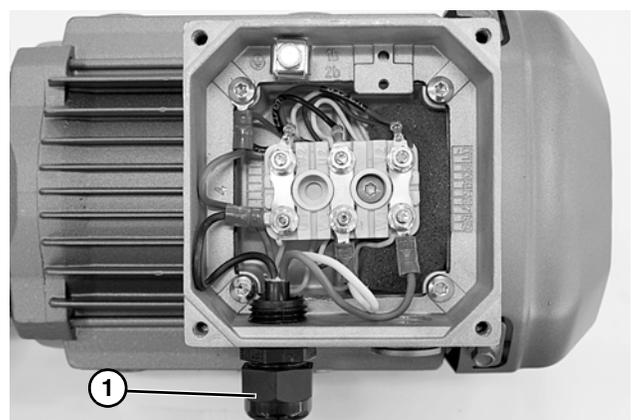

Figure 14
3. Install cord grip and power cord (Figure 14, item 1) mount to terminal box as required.